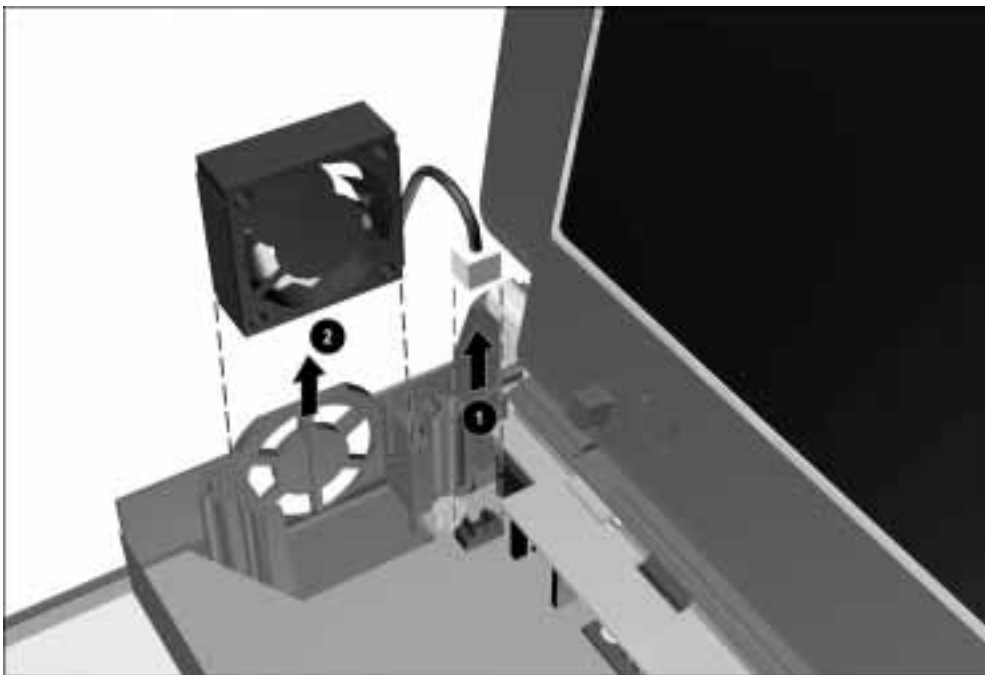

Figure 5-30. Removing the Fan Assembly
3. Disconnect the fan cable from the system board ❶ (Figure 5-30).
4. Lift the fan from the housing molded into the base assembly ❷.